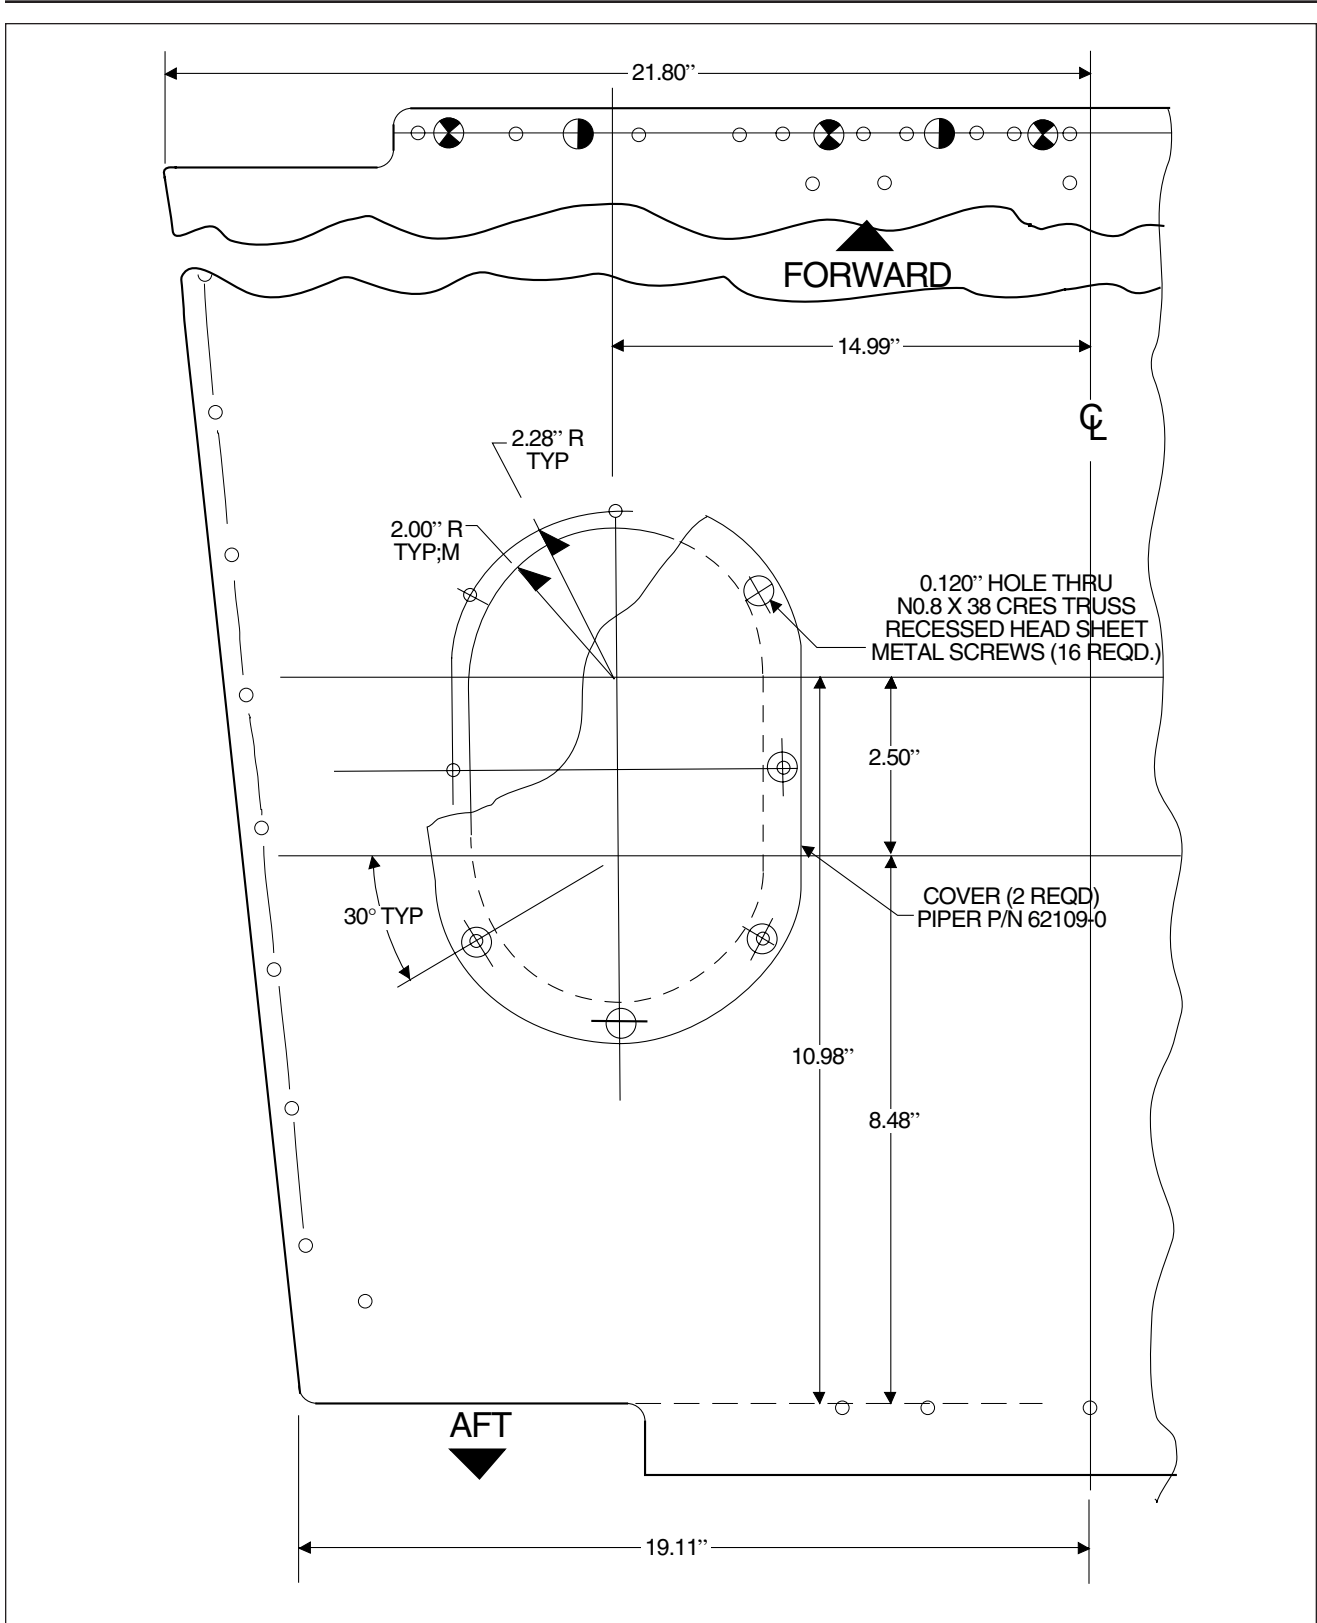

Figure 4-13. Baggage Compartment Inspection Holes Cutout Details
## 4-56. BAGGAGE COMPARTMENT INSPECTION HOLES FABRICATION PROCEDURE (Refer to Figure 4-13)
While Figure 4-13 shows the hole in the left side of the baggage compartment, a similar hole is also cut out in the right side baggage compartment floor. Installation will require two each inspection access covers, Piper P/N 62109-0.
- c Determine and mark a reference center line running through baggage compartment. Refer to Figure 4-13 for measurements.
- g Using the intersection of the lines constructed in step (6) with each hole's centerline as the center, scribe an arc having a radius of 2.00"
- h Draw a line (four lines total) tangent to the each side of the arcs constructed on step (7).
- i There should now be two ovals, like the one in Figure 4-13 laid out on each side of the baggage compartment floor.